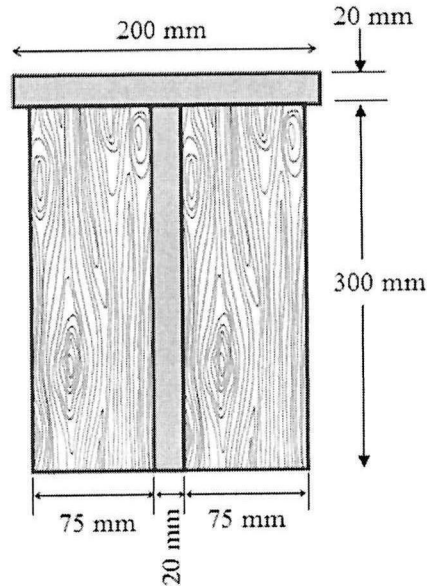

Figure Q4
- Q4** Two steel plates have been welded together to form a beam in the shape of a T that has been strengthened by securely bolting to it the two oak timbers as shown in **Figure Q4**. The modulus of elasticity is 12.5 GPa for the wood and 200 GPa for the steel. The bending moment of $M = 50 \text{ kNm}$ is applied to the composite beam and created a compressive stress at the top of beam.